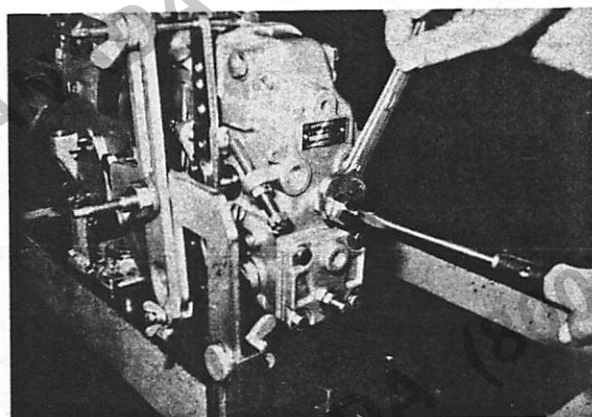

Fig. 4-67 Adjustment of idling speed control
- (2) Drive the pump at N_6 rpm. Move the adjusting lever in idling position so that the rod travel becomes R_6 mm.
- (3) Check the rod travel R_7 mm at N_7 rpm. Then set the stop adjusting screw to contact the adjusting lever, and tighten the lock nut (Fig. 4-67).